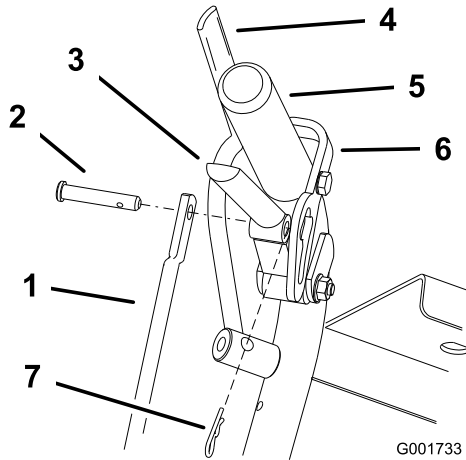

Figure 22
1. Remove the hairpin cotter pins and clevis pins from the drive levers and neutral locks (Figure 22).
6. Install the hairpin cotter between the drive levers and the neutral locks and into the clevis pins (Figure 22).